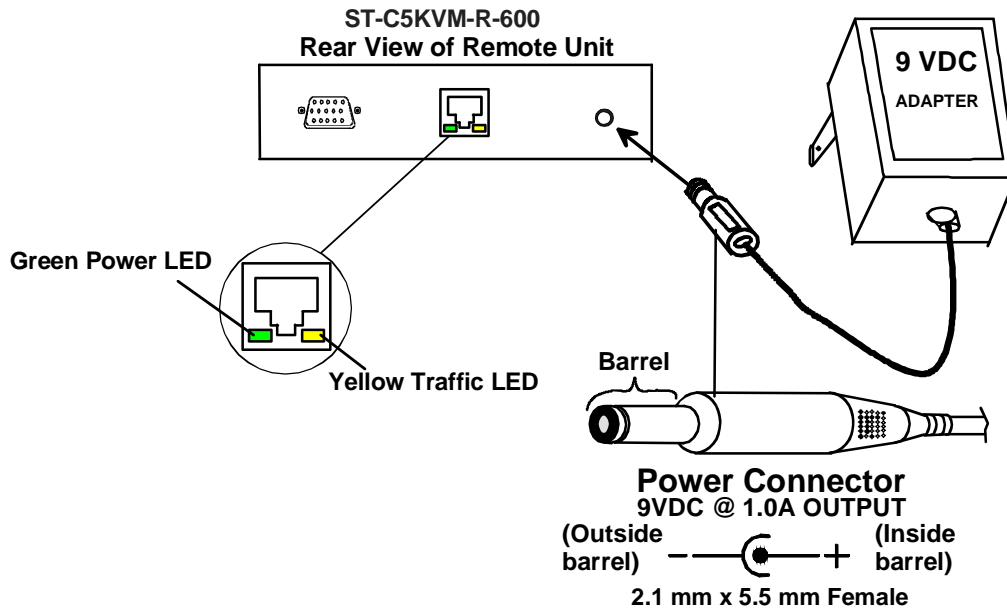

Figure 12- Connect the AC adapter to the Remote Unit
2. Connect each AC adapter power connector to the 9VDC ports on the Remote and Local Units. Plug each AC adapter into a power outlet. The green LED on the RJ45 connector of both the Remote and Local Units should illuminate, indicating that a proper power connection has been made to them. (See Figure 12.)
Note: The Traffic LED on each RJ45 connector will illuminate anytime data traffic is passing between the Local and Remote Units, indicating proper CAT5 cable connection and communication. (See Figure 12)